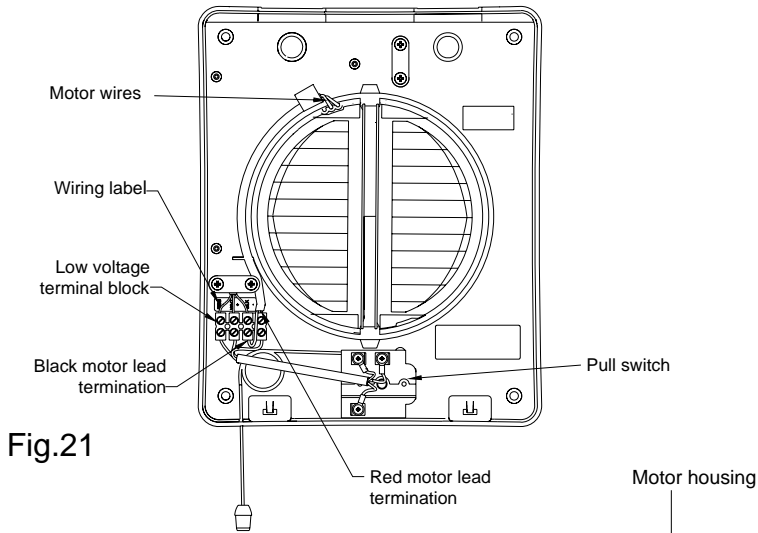

Fig. 22
2. Carefully withdraw the heat exchanger from the unit (Fig. 22).